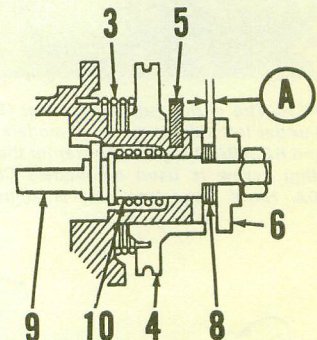

Fig. Y4-7—Clearance (A) is adjusted by varying shims (8).
Check the minimum plunger stroke by turning starter plate (16) until clearance (A—Fig. Y4-7) between pulley and adjusting plate is at its minimum. Clearance (A) should be 0.20-0.25MM (0.008-0.010 inch). If clearance is incorrect, add or deduct shims (8).